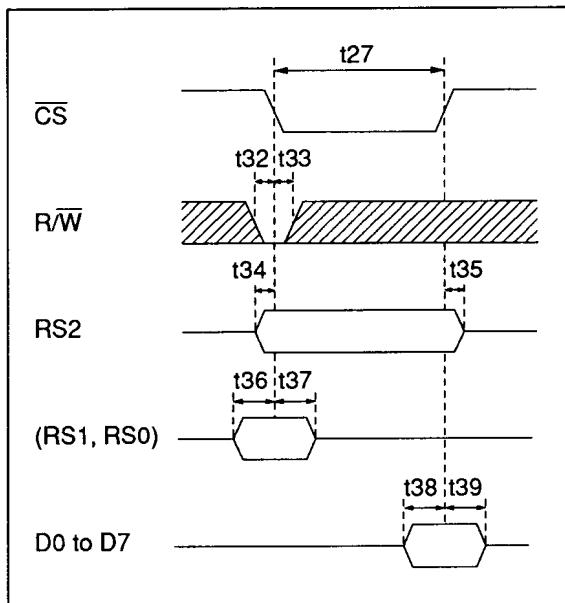

Figure 5
- Register Write: To write data in registers, input the data on D0 to D7 as shown in figure 5.